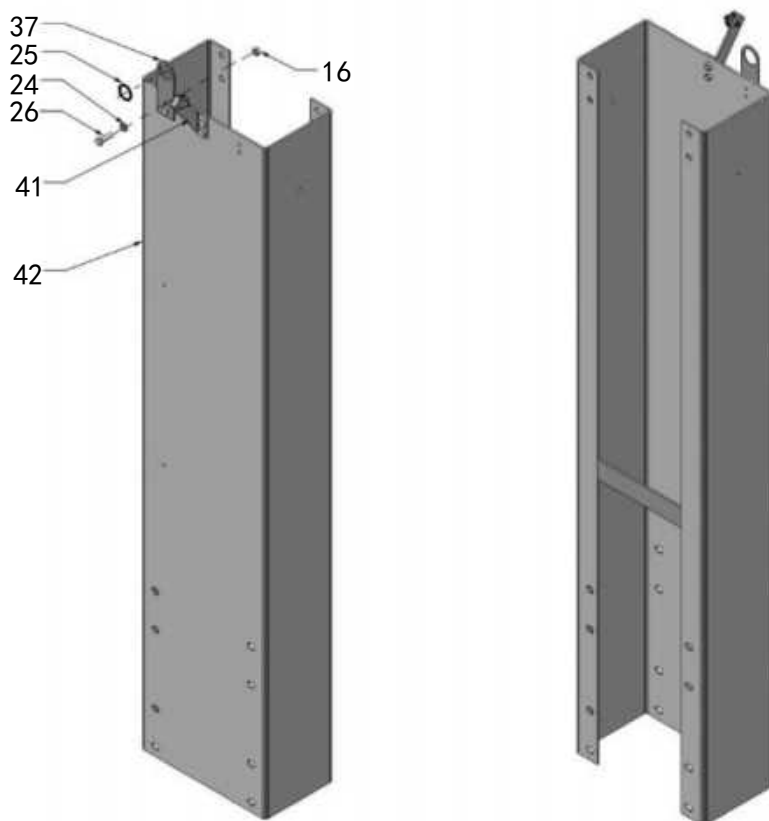

Fig. 16
D. Install parts of extension columns(See Fig. 16).